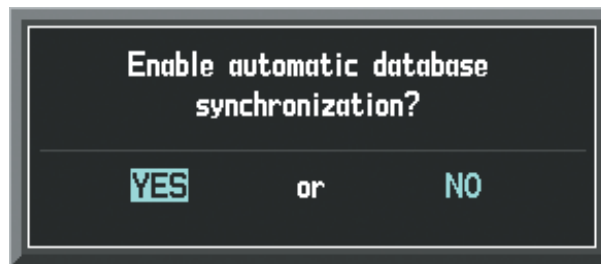

Figure B-12 Enable Database Synchronization Prompt
- 9) If necessary, press the **SYNC DBS** Softkey to enable database synchronization (Figure B-2). A confirmation box is displayed as shown in Figure B-12. If Database Synchronization has been enabled prior to this step, proceed to step 11.